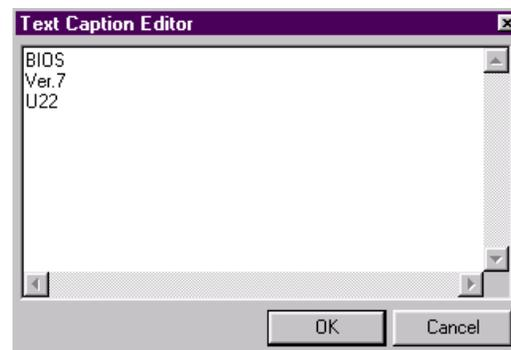

Figure 3-79—Edit text
- 2b) On the Text Caption Editor window, edit the text as desired. Press OK when finished. See Figure 3-79.